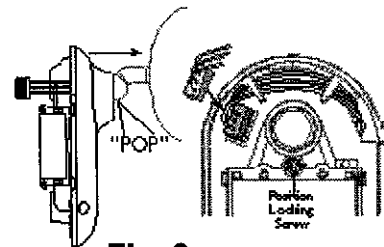

Fig. 3
7. Push on locking adjustment screw then snap sensor onto mounting post. Plug wiring harness into connector located on the left side opposite exit slot and place wiring under wire tabs as shown in Fig. 3. Align sensor and tighten adjustment screw.